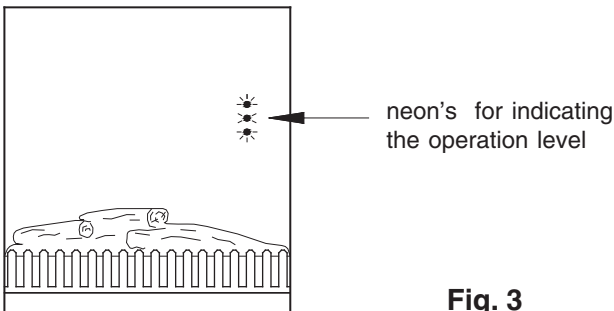

Fig. 3
**Note:** When either the remote control or the manual controls are used, the neon's will come on for 3 seconds indicating the relevant setting (see fig. 3).